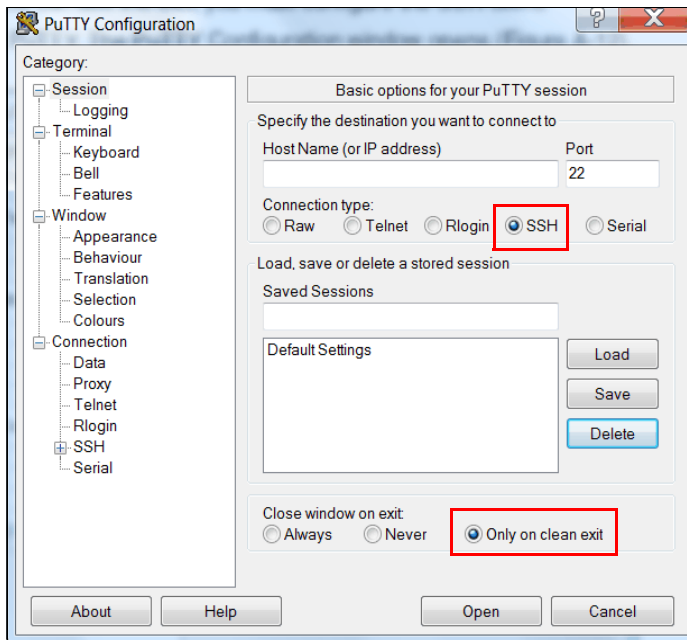

Figure A-14 Select SSH + Only on clean exit
- In the right side pane, select **SSH** as the connection type. Under the “Close window on exit” section, select **Only on clean exit**, which ensures that if any connection errors occur, they are displayed on the user’s window (see Figure A-14).